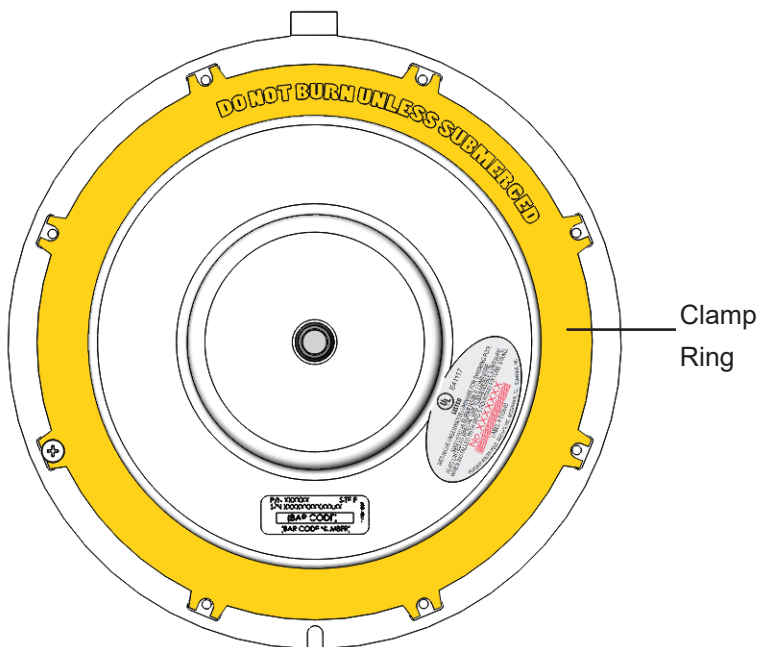

Figure 3.
4. Rotate the clamp ring so that the slots on the outer edge line up with the threaded holes of the grille as shown in Figure 3. Lastly, ensure clamp ring is flush with the grille.